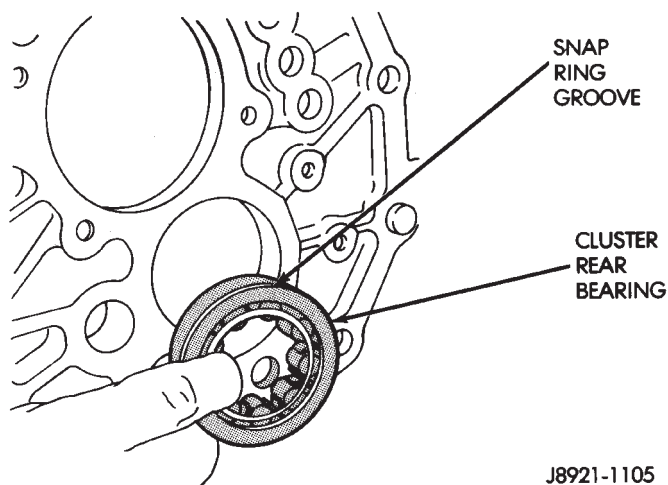

Fig. 81 Installing Cluster Gear Rear Bearing
(2) Lubricate cluster gear journal and rear bearing with petroleum jelly or gear lubricant.
(3) Install cluster gear rear bearing in intermediate plate (Fig. 81). Be sure snap ring groove in bearing is rearward as shown.